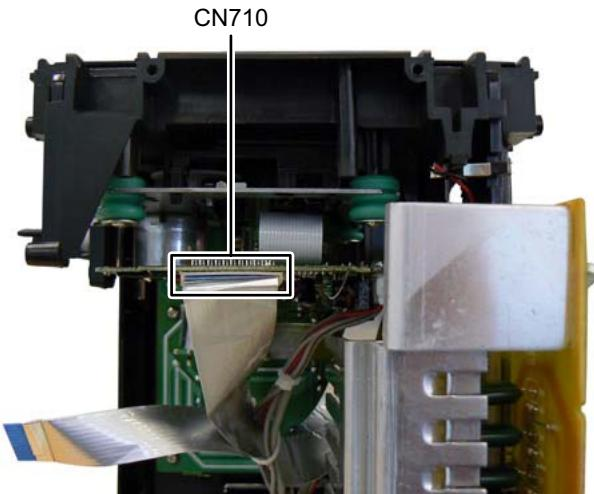

Fig.8
3.1.4 Removing the MAIN BOARD assembly (See Fig.8 to 11)
- (1) Disconnect the card wire from MAIN BOARD assembly connected to connector CN710 of the CD BOARD assembly. (See Fig.8)